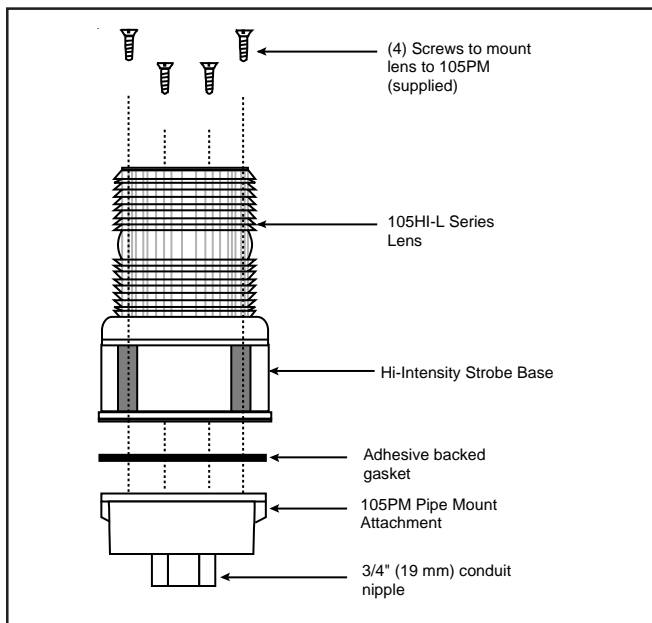

Figure 3. Securing the 105HIST Beacon to the Mounting Attachment (Pipe Mount Attachment shown)
8. **Mount the 105HIST Series as follows.** Secure the hi-intensity strobe base to the appropriate mounting attachment using four screws (supplied) as shown in Figure 3.